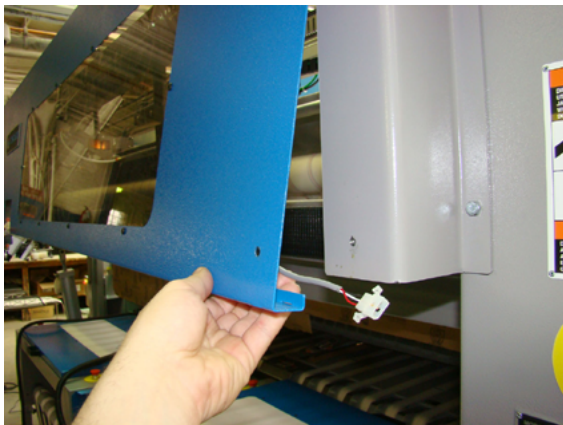

Figure 2-2: Remove the front guard to raise the unit by forklift.
7. Remove the front guard (Figure 2-2, A). Make sure to disconnect the tail photosensor connector inside the front of the unit, near the right endframe (B). Be careful to keep track of all screws. Place in a safe location.